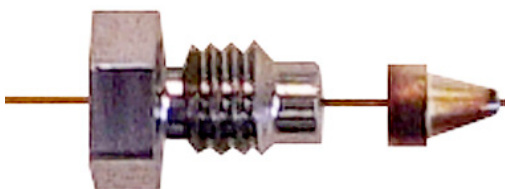

Figure 10 Tube end with internal nut and swaged SiTite ferrule
- 6 Check the end of the tube with a magnifier. The end of the tube need not be perfectly square, but should not have cracks which extend under the ferrule. Figure 10 shows a completed tube end.